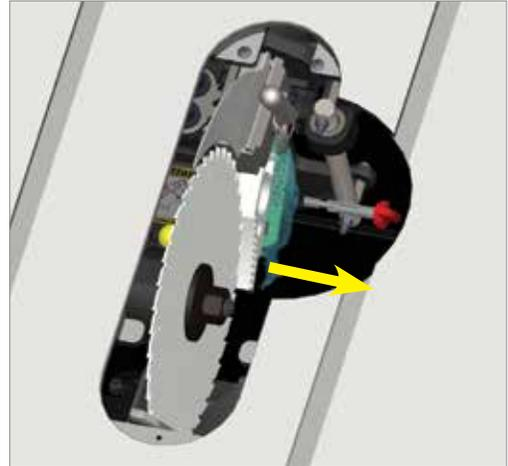

Fig. 89
To remove the cartridge, first remove the cartridge key by turning it 90° clockwise and then pulling it away from the cartridge (see Fig. 89). Set the cartridge key aside for use with the new cartridge.
If the cartridge has been activated, the brake pawl typically will be locked onto the blade or dado set. As a result, it is usually easiest to remove the blade and the brake cartridge together. To remove the cartridge and blade together, first remove the blade nut and washer, and then remove the cartridge key by turning it 90° clockwise and pulling it away from the cartridge (see Fig. 89). You can remove the blade and brake cartridge simultaneously by alternately moving the blade and then the cartridge to the right to “walk” them off the arbor and pins. Often you can “walk” them to the right by hand, but if not, you can use a blade wrench as a lever. To do this, place one end of the wrench between the blade and the side of the arbor block, being careful to maneuver around the dust shroud. Now push the blade a short distance away from the arbor flange (see Fig. 91 on the next page). **Do not place the wrench against the dust shroud because the dust shroud could break.** Next, place the end of the wrench between the brake pawl and the cartridge mounting bracket to gently pry the cartridge away from the arbor block a short distance (see Fig. 92 on the next page). Only move the blade and cartridge a short distance each step, for example, a distance equal to one or two threads on the arbor. Otherwise the brake cartridge may bind on the arbor and pivot pin. Repeat these alternating steps to walk the cartridge and blade off. A significant force may be needed to pry the cartridge off the mounting pin if the brake pawl deformed and pinched the pivot pin when it stopped the blade.
Next, insert the cartridge key into the hole in the cartridge housing (see Fig. 89 on page 62). The key shaft has a ridge that must be aligned with a channel in the hole. As a result, the key can only be inserted into the hole when the red handle is pointing toward the brake pawl (as shown in Fig. 89 on page 62). Insert the key fully into the hole and rotate the key 90° counter-clockwise to lock the cartridge in place (Fig. 88 on page 61 shows the key in its locked position). The key will not rotate unless it is fully seated against the side of the cartridge housing and the cartridge housing is pressed against the cartridge mounting bracket.